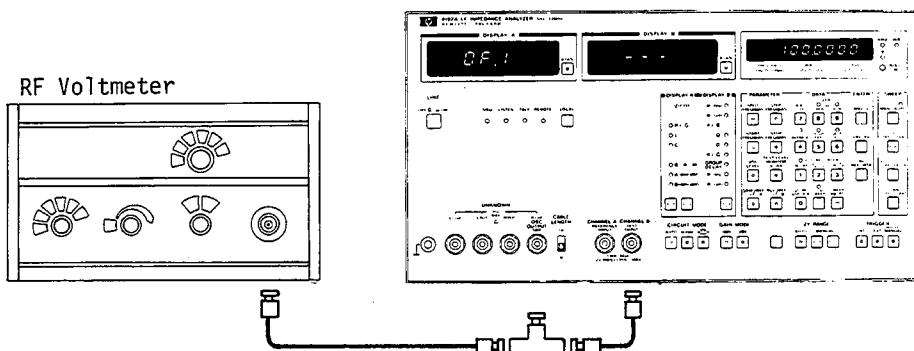

Figure 5-12. A11 IF Amplifier Adjustment Setup.
- Connect the 3403C to the 4192A as shown in Figure 5-12.